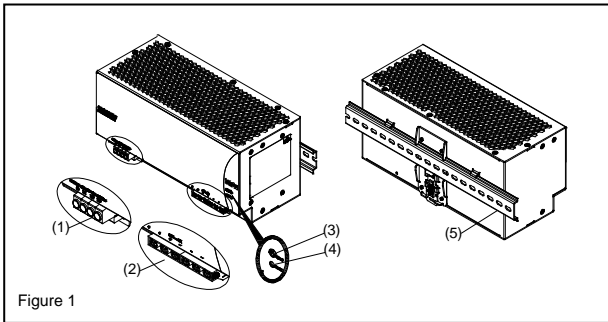

Figure 1
2. Device description (Fig. 1)
5.1. Input connection (Fig. 1, Fig. 5)
5.2. Output connection (Fig. 1 (2))
Use the "+" and "-" screw connections to establish the 24Vdc connection. The output provides 24 VDC. The output voltage can be adjusted from 24 to 28 VDC on the potentiometer. The green LED DC OK displays correct function of the output (Fig. 1 (4)). The device has a short circuit and overload protection and an overvoltage protection limited to 35 VDC.